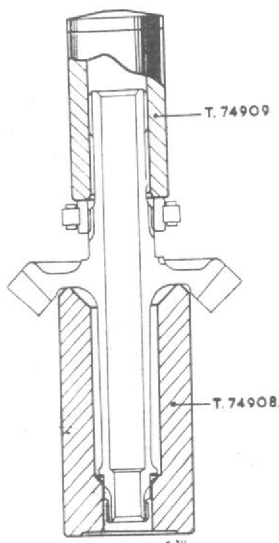

Fig. 9. Pressing the roller bearing on to the horizontal drive shaft
- (1) Place the rear bearing housing on press block T78985 and position the outer race of the roller bearing over the mandrel of the press block.
- (2) Use adapter T78986 to press the roller race into the housing.
- (3) Remove the housing from the press block.
- (4) Secure the race in the housing with a new retaining ring (Part No. N4211) using Seeger pliers.
- (5) Place the horizontal drive gear on press block T74908.
- (6) Position the roller bearing (inner race) over the shaft.
- (7) Using adapter T74909, press the bearing on to the shaft until it abuts the shoulder behind the gear (fig. 9).
- (8) Transfer the shaft to vice block T74910 and secure the shaft by screwing on the special nut.
- (9) Assemble a new cup-locking washer (Part No. N2873) and the ring nut to the rear end of the shaft; tighten the nut to the torque loading given in Chapter 22; lock the nut by lightly tapping the cup-washer into the serrations of the ring nut at two opposite positions.
- (10) Assemble the housing and horizontal shaft together by sliding the rear bearing housing roller race (outer race) over the roller race (inner race) on the shaft.